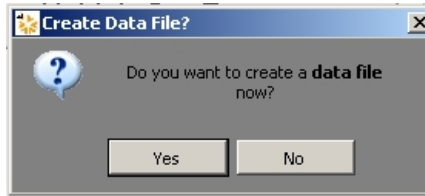

Figure 2-36 Create Data File
20. Click **Finish** and the *Create Data File* dialog appears (Figure 2-36).